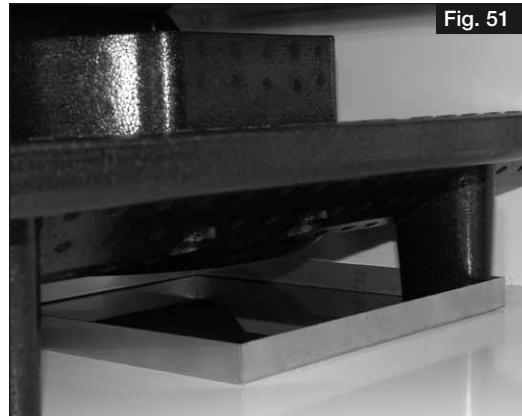
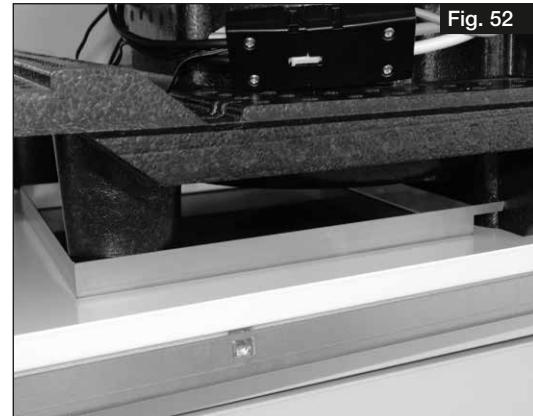

Fig. 51
Fig. 52
**The metal trays prevent the accumulation of condensate in this area and they must be checked for correct positioning (cf. Fig. 51 and Fig. 52).**